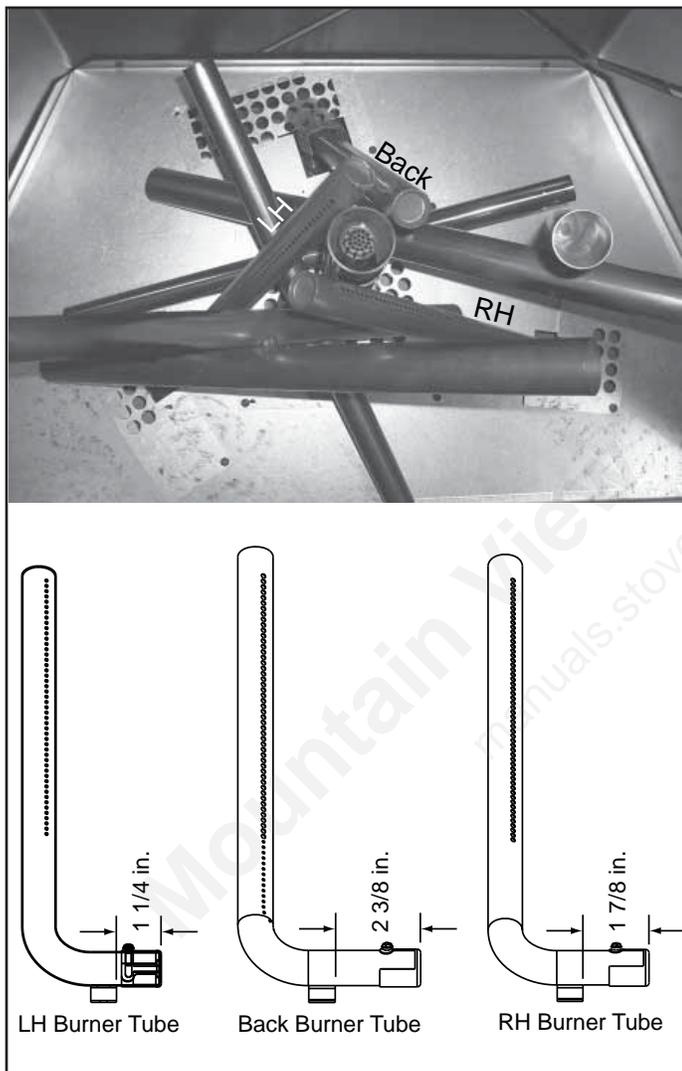

Figure 3.7 Burner Tube ID
**Note:** Mark and note burner tube locations. They are not interchangeable (Figure 3.7).